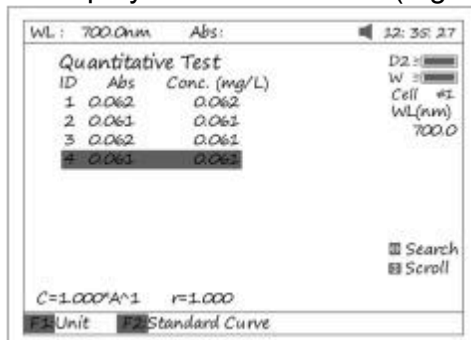

Fig 38
- 4.2 Pull the sample cuvette into Main Light Path, press the key **【START】** , the results will be displayed on the screen (Fig 38).